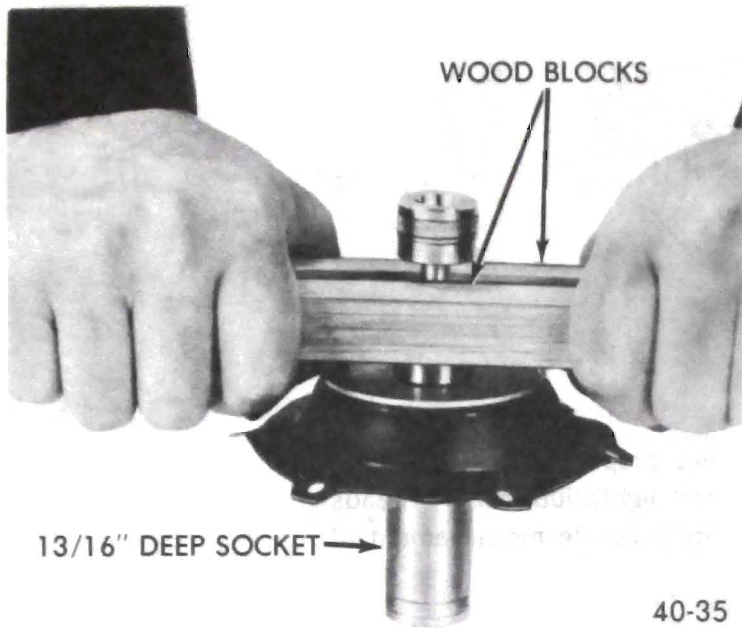

Figure 40-43 - Installing Diaphragm Retainer
1. Install new corprene washer, old plate (unless damaged), new diaphragm (with outer lip toward second stage end of piston) and second plate. See Figure 40-43.